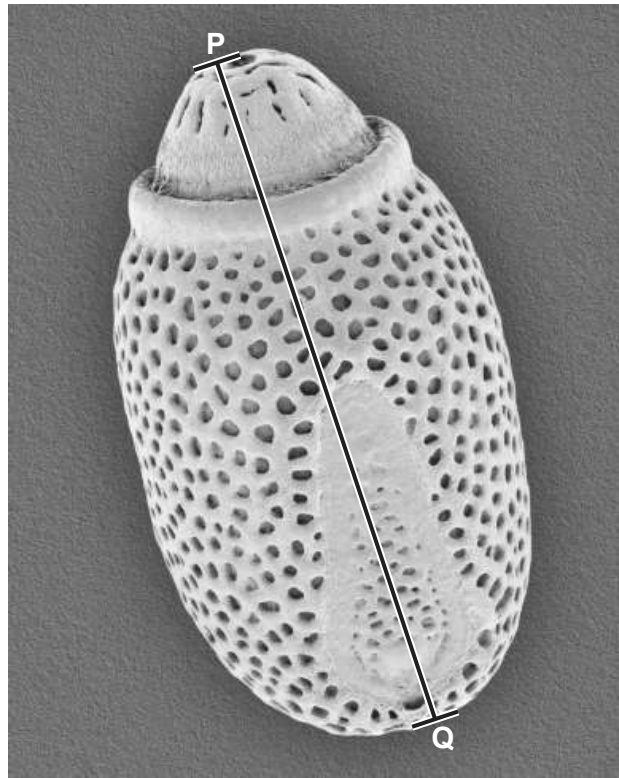

Fig. 2.2
- (ii) Line **PQ** on Fig. 2.2 represents the length of the whole egg case.
Measure the length of line **PQ** on Fig. 2.2.